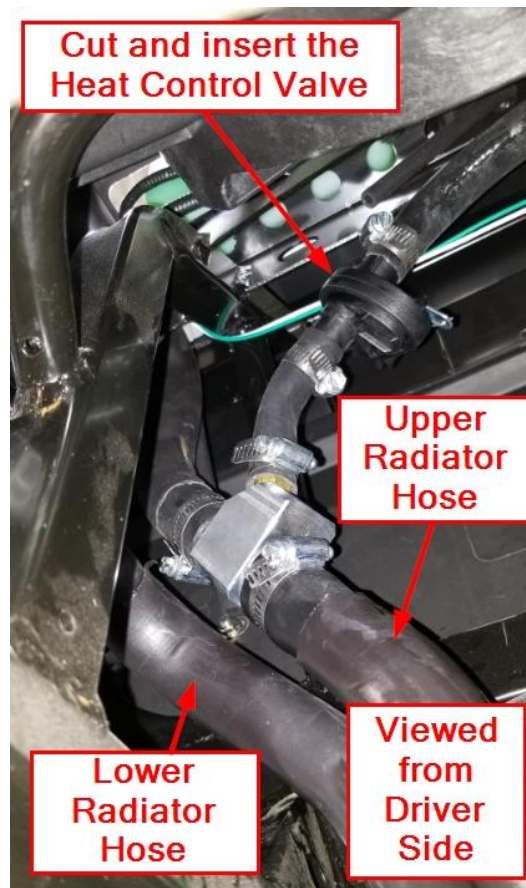

Figure 27
- o. Connect each end to their respective Aluminum Y fittings. Avoid sharp bends in the hose and cut off excess hose if needed. Secure the heater hose using #10 hose clamps. Refer to Figure 27 and Figure 28.